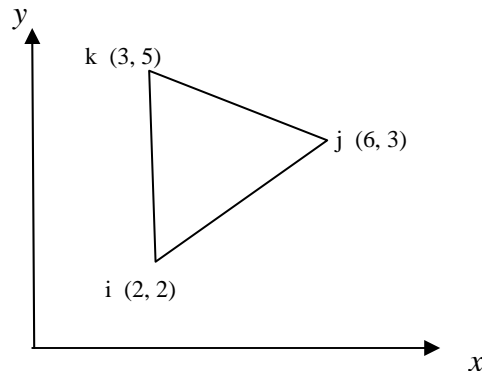

Fig. 5
- b) Formulate the finite element equations for triangular torsion element shown in fig.5 [6+10]